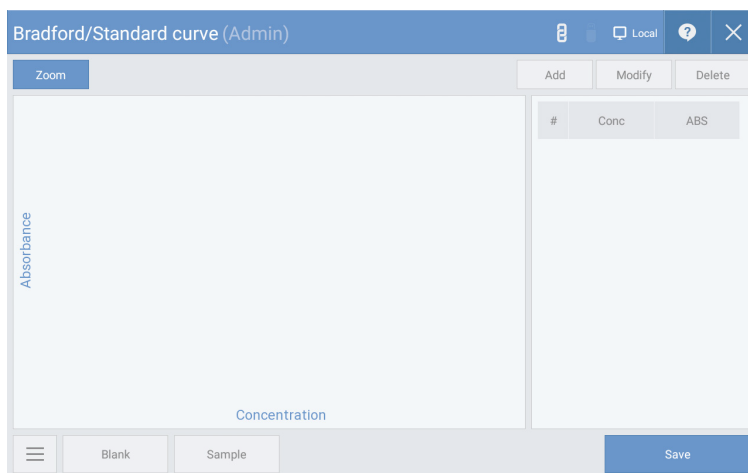

Fig. 3.4
2. [Fig. 3.4] Click the “Settings” button at the bottom of the screen to set the measurement environment.
3. Click the “Add” button in [Fig. 3.4] to enter the concentrations of the standard samples to measure.